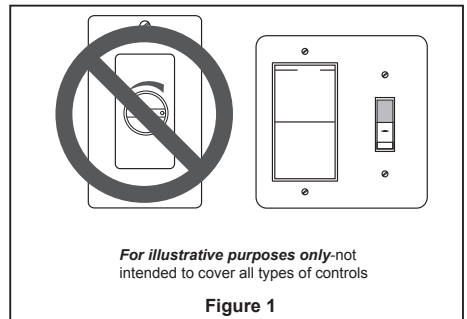

Figure 1
1. Remove one of the three screws in the support bracket at the bottom of the motor assembly. Retain the screw for later and slightly loosen the remaining two screws. (Figure 1)
- 1. IMPORTANT:** Using a full range dimmer switch (not included) to control fan speed will damage the fan. To reduce the risk of fire or electrical shock, do not use a full range dimmer switch to control the fan speed. (Figure 1)